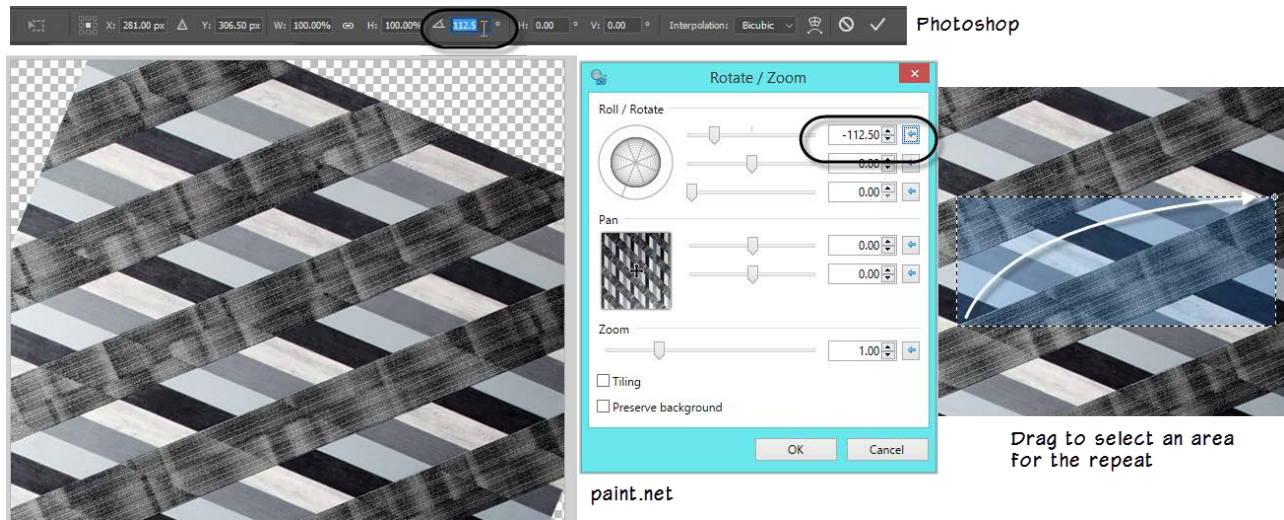

Figure 24—Rotate the image and select the rectangular repeat
4. In either program, use the selection box, drag from the corner where the black VCT meets the carpet and diagonally up where the white VCT meets the carpet on the other side (see Figure 24).